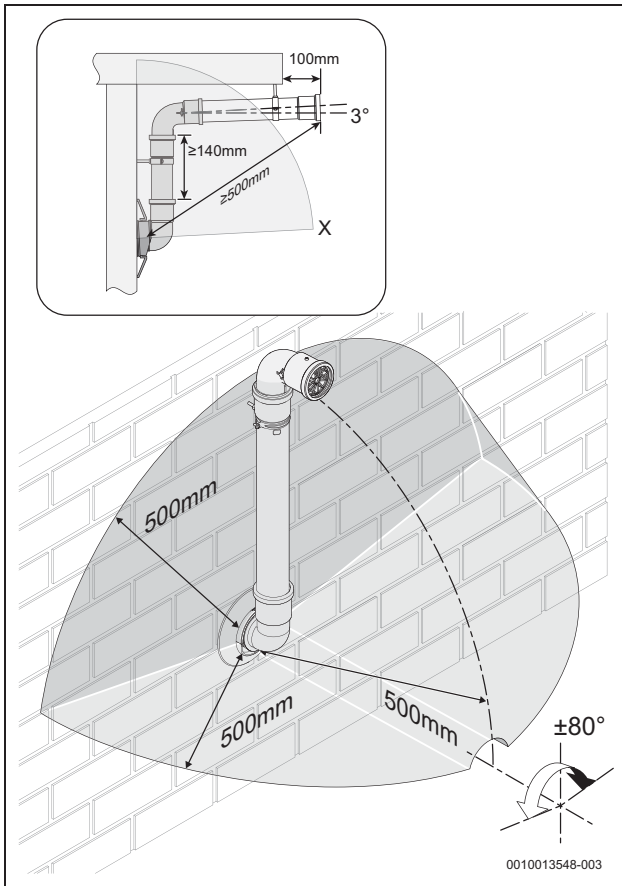

Fig. 29 Terminal exclusion zone
- ▶ Do not terminate the plume management inside the terminal exclusion zone (shaded area) shown in figure 29.